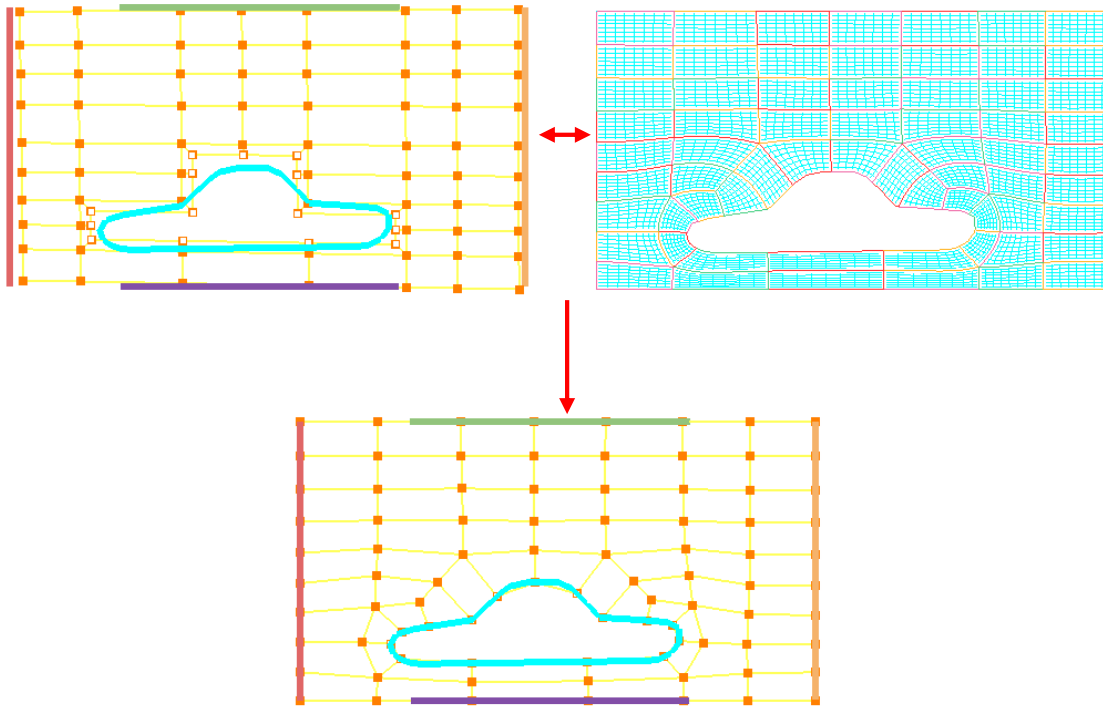

Figure 4.80: Before and after aligning to grid
*Align To Grid* is a kind of projection that synchronizes the position of the topology corners and the edges with the grid blocks existing in the grid tab. A multi-block *GridPro* grid should exist in the grid tab that should match the blocking pattern and the block count of the topology that has to be projected. Both the topology and the grid should exist in the current session of the *GridPro*. Figure 4.80 shows the topology before and after sync.